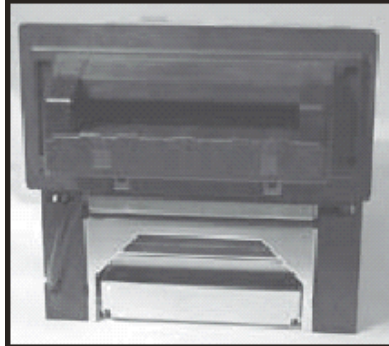

Figure 1
2. Remove the existing faceplate by opening the WBA transport and removing two screws. Disconnect the 4-wire harness from the transport (Figure 1).